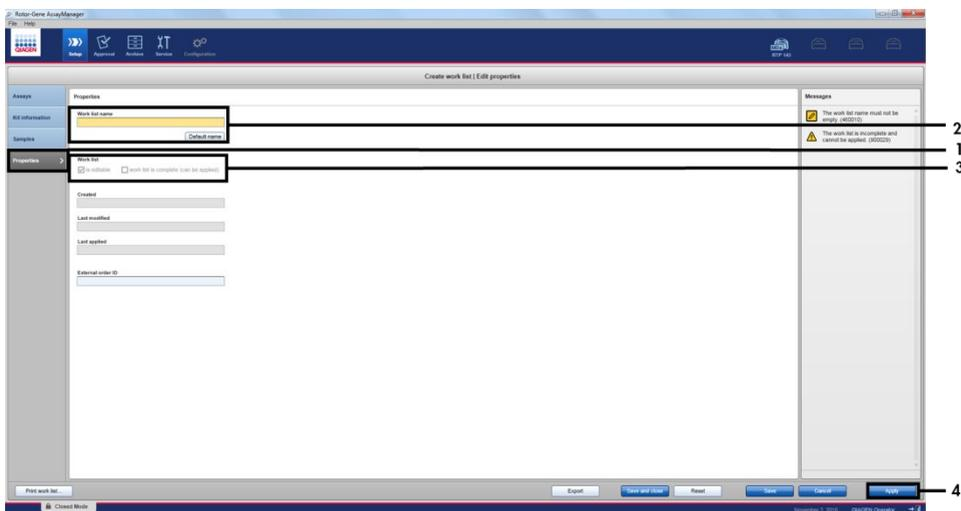

Figure 11. Create work list main window. 1 = “Properties” tab, 2 = Enter work list name, 3 = Select “is editable” and the “work list is complete”, 4 = “Apply”.
7. Click the Properties tab and enter the name of the work list. Once the work list name has been entered, ensure that the **is editable** and the **work list is complete** boxes are checked. Then, click **Apply** in the bottom right-hand corner to apply the work list (Figure 11).